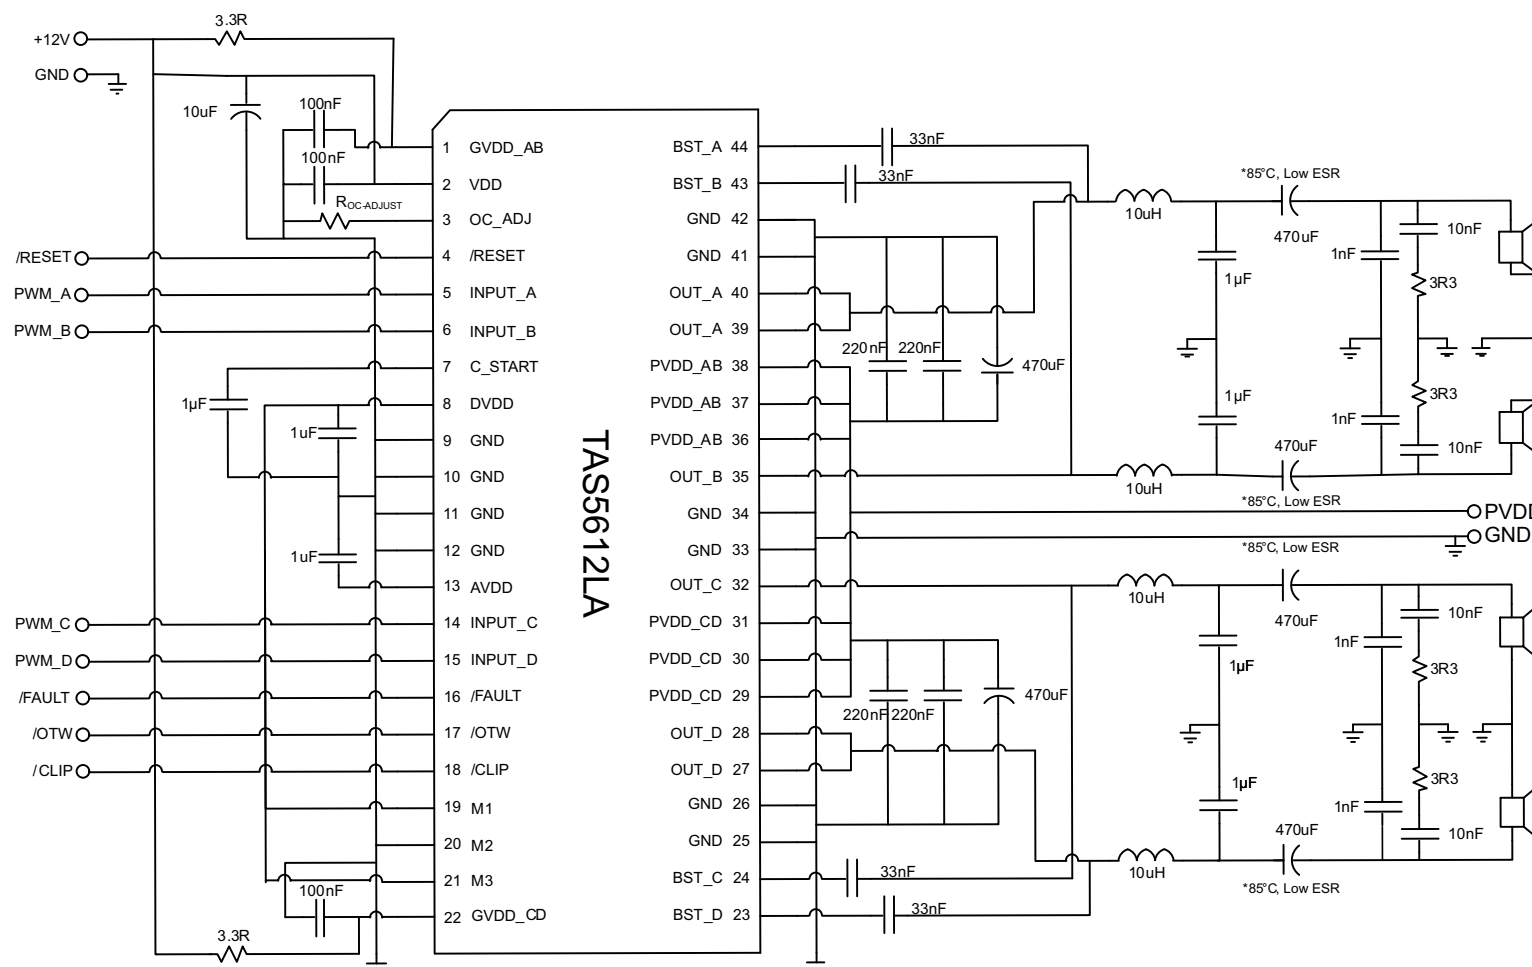

Figure 22. Typical (1N) SE Application
See Figure 22 for application schematic. In this application, four single-ended PWM inputs are used with AD modulation from the PWM modulator such as the TAS5558. AD modulation scheme is defined as PWM(+) is opposite polarity from PWM(-). The single-ended (SE) output configuration is often used to drive 4 independent channels in one TAS5612LA device.
- Pins 27, 28, 32, 35, 39, 40 - Output pins from half-bridges A, B, C, and D. Connect appropriate bootstrap capacitors and differential LC filter as shown in Figure 22.
- Pins 29, 30, 31, 36, 37, 38 - Power supply pins to half-bridges A, B, C, and D. A and B form a full-bridge and C and D form another full-bridge. A 470-uF bulk capacitor is recommended for each full-bridge power pins. Two 0.22-μF decoupling capacitors are placed on each full-bridge power pins. See Figure 22 for details.